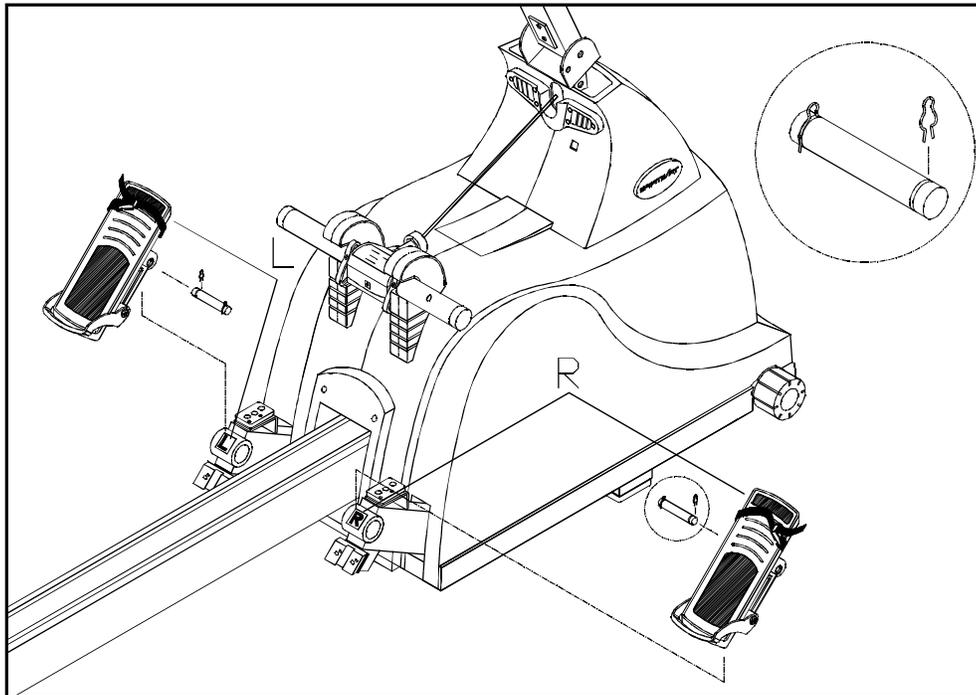

FIG.5
5. Place the right and left footplates into position and secure with the posts and cotter pins provided (see Fig. 5).